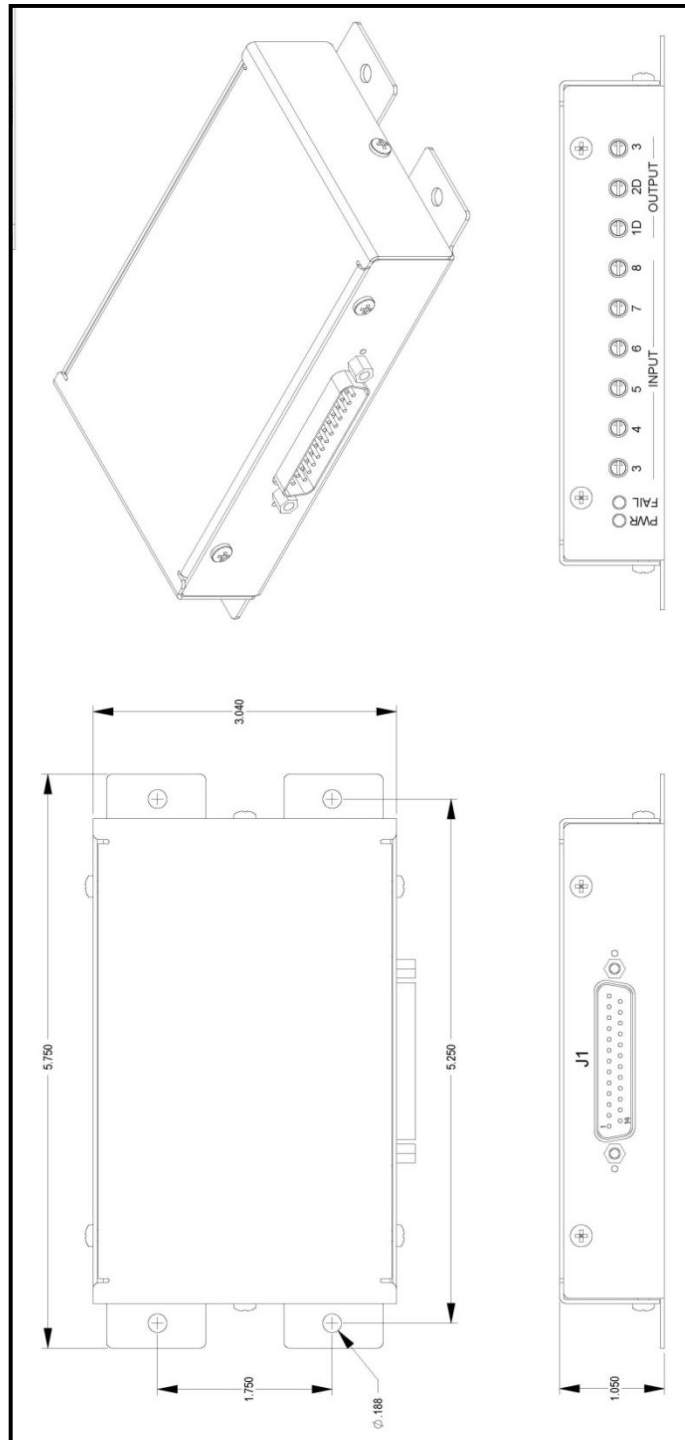

Figure 9: G13120 Audio Mixer
- b. The exact mounting location is left to the installer's discretion provided that the installation of the Audio Mixer does not interfere with other equipment installed. Refer to Figure 9 for laying out mounting holes.
- c. Mount the Audio Mixer using (4) #8-32 screws, washers and locknuts or nutplates. When mounting into composite structure, #8-32 potted inserts should be used.